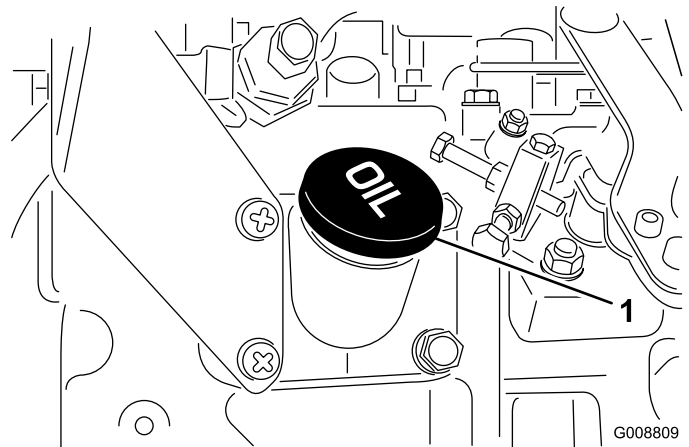

Figure 9
4. If the oil is below the Full mark, remove the fill cap (Figure 9) and add oil until the level reaches the Full mark. **Do not overfill.**